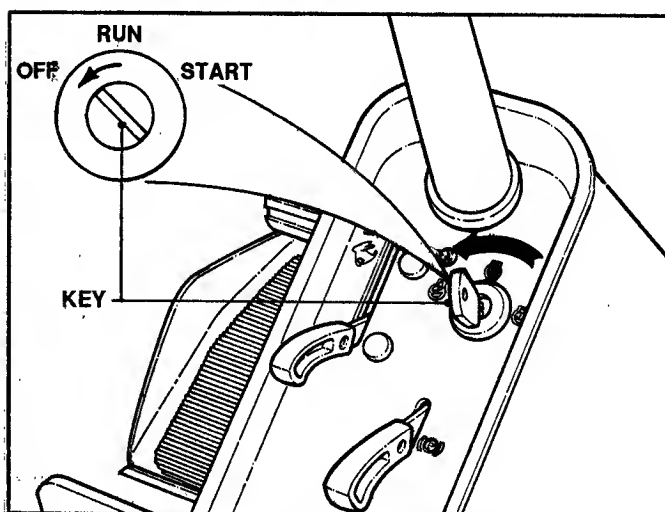

FIGURE 2.4
- 1. Stop engine by turning key to the "OFF" position. See Figure 2.4.